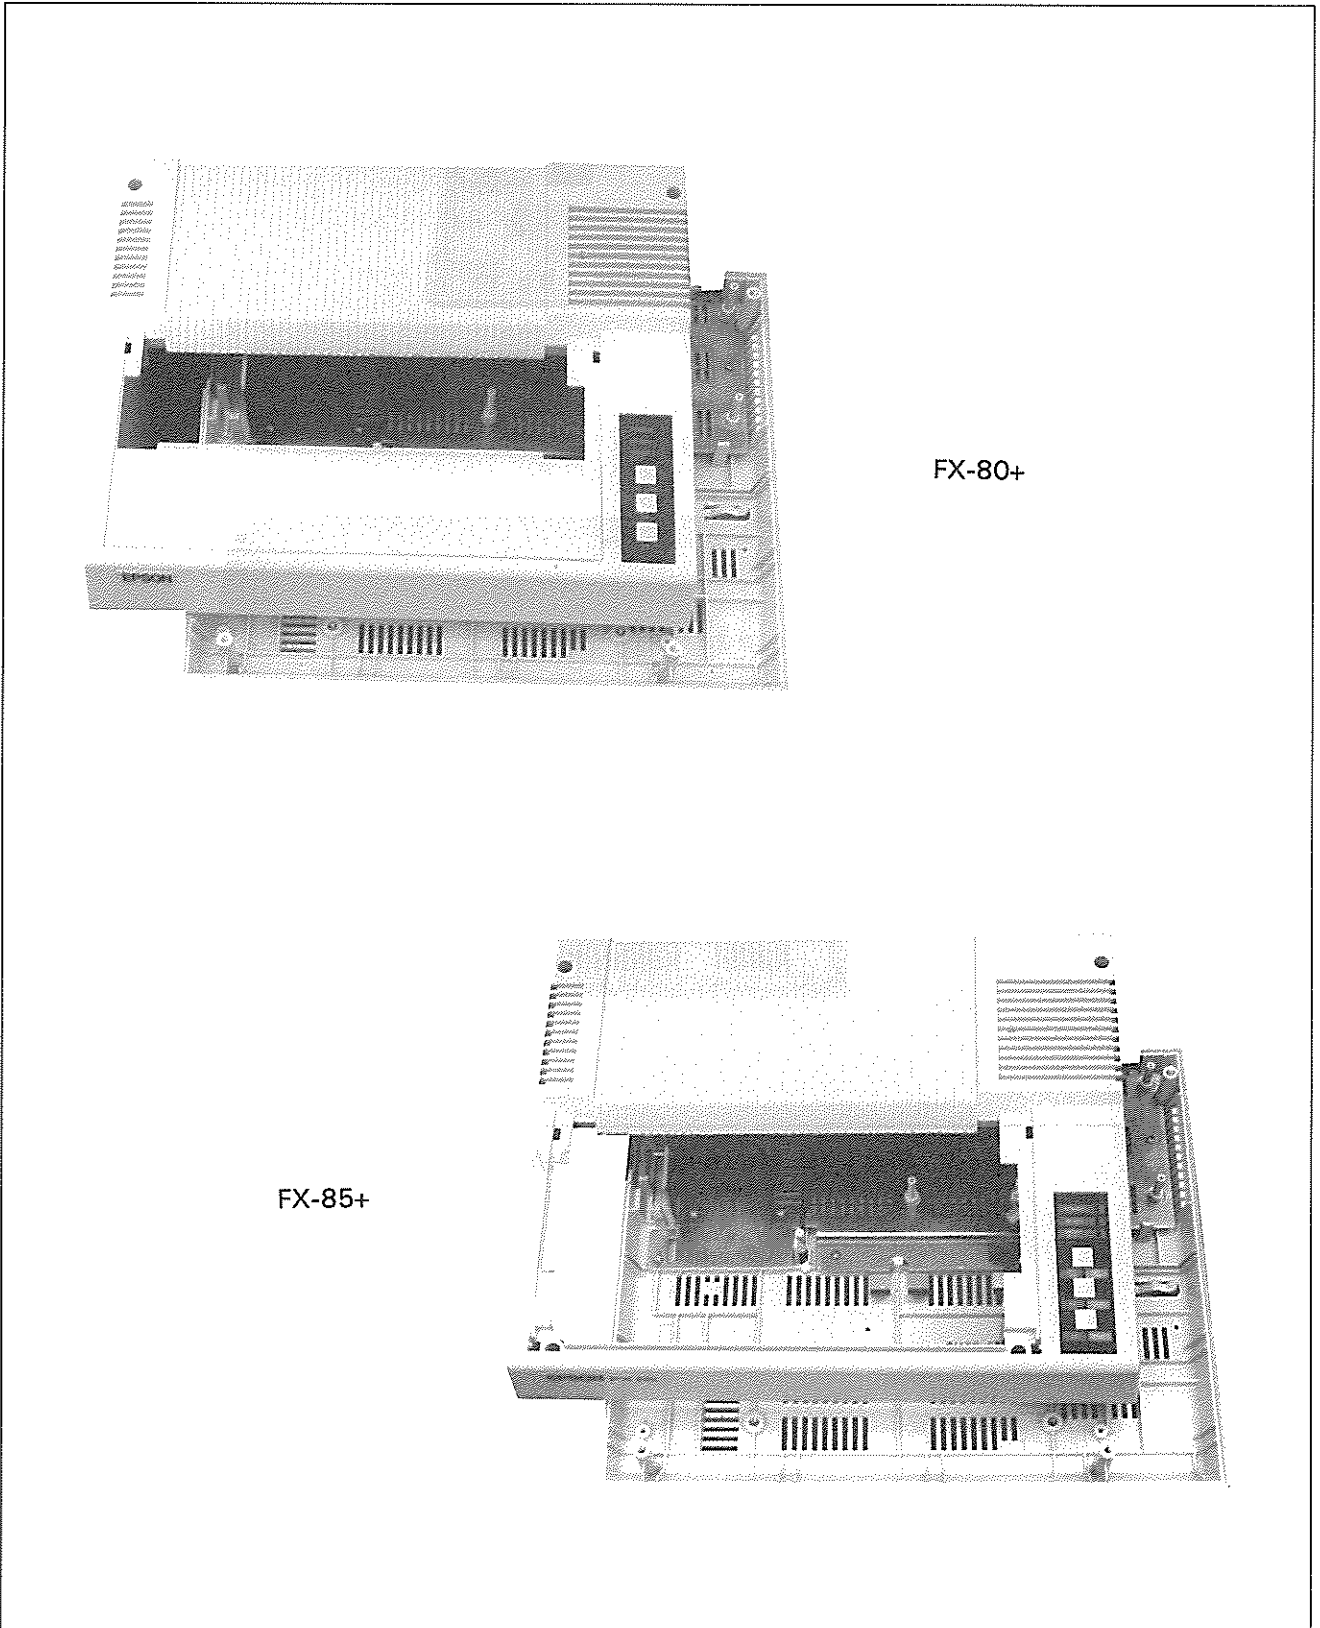

Fig. 1-9. Housing (FX-80+/FX-85)
1.4.4 HOUSING (Refer to Figs. 1-9 and 1-10)
In the Printer, housing, consisting of the upper and lower cases, accomodates the components shown in Figures 1-9 and 1-10.